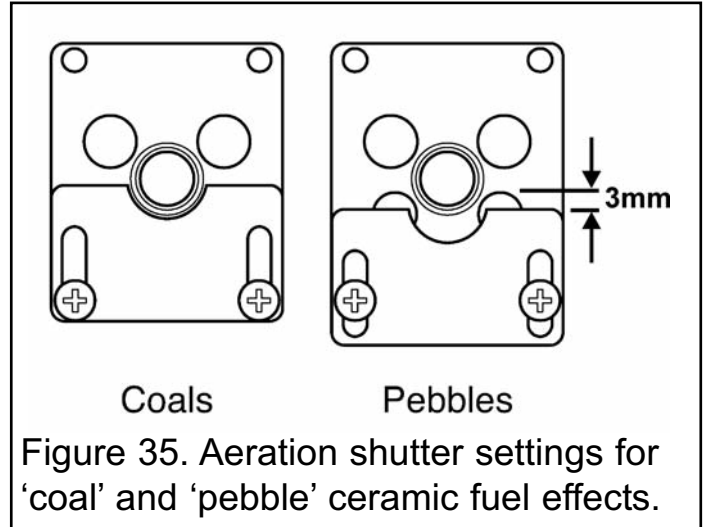

Figure 35. Aeration shutter settings for 'coal' and 'pebble' ceramic fuel effects.
1. The aeration shutter is factory set. It is important to ensure that the aeration setting is correct for the ceramic fuel effect used (See figure 35).